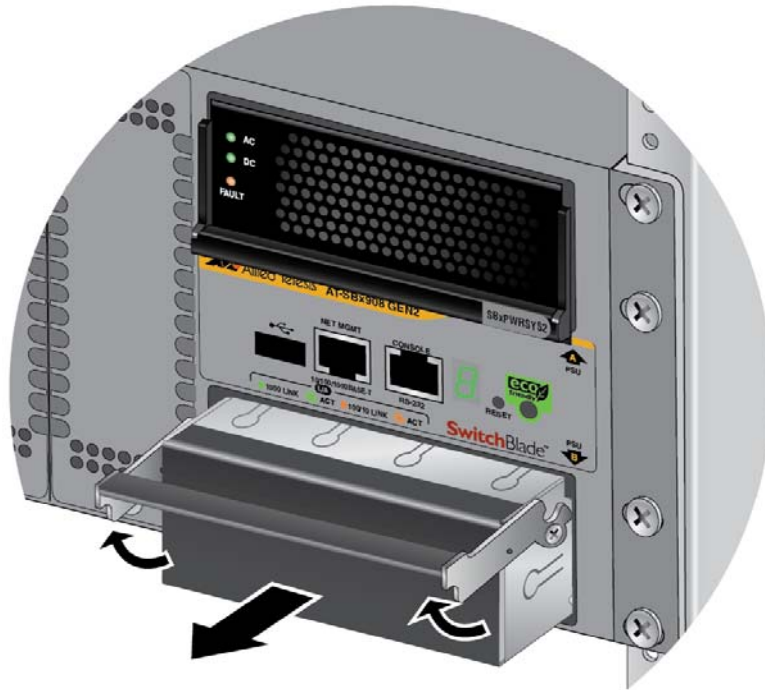

Figure 27. Removing the Blank Power Supply Panel from Power Supply Slot B
2. If there is already a power supply in PSU A, lift the handle on the blank power supply panel in PSU B and slide the panel from the slot. Refer to Figure 27 on page 62.